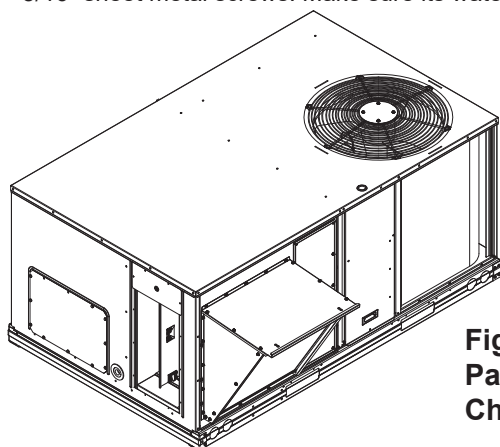

Figure 8 – Filler Panel Not Used for Chassis 1
Step 11: Attach R/A black off panel as shown in **Figure 8**. Use #10-16 5/16" sheet metal screws. Grommet must be installed before duct work is installed.